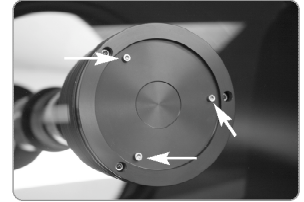

Fig. 33b: Collimation screws.
- a. The only adjustments possible, or necessary, on the Advanced Coma-Free Telescopes LX200-ACF models are from the three screws (**Fig. 33b**) located at the edge of the outer surface of the secondary mirror housing.